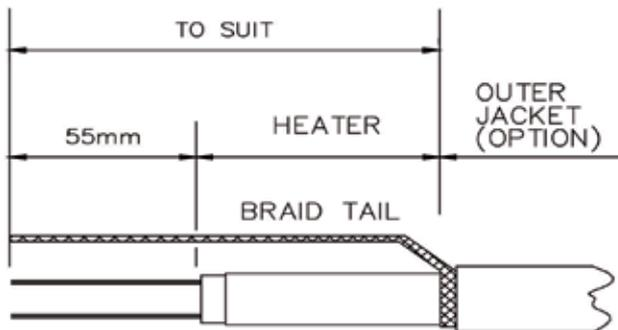

Fig 3
- Ensure that the heating cable is long enough to allow for unhindered access to the junction box terminals. You may then find it easier to remove the junction box to continue with the remainder of the termination. (Carefully strip back 55mm of the outer sheath (figure 3) of the BASE HEATER) so that the black plastic conductive core is completely exposed. Then, carefully strip the conductive core from the two stranded wire current carrying conductors over the whole exposed area. It is essential that the wire conductors are not damaged, so great care should be taken when removing the conductive core.